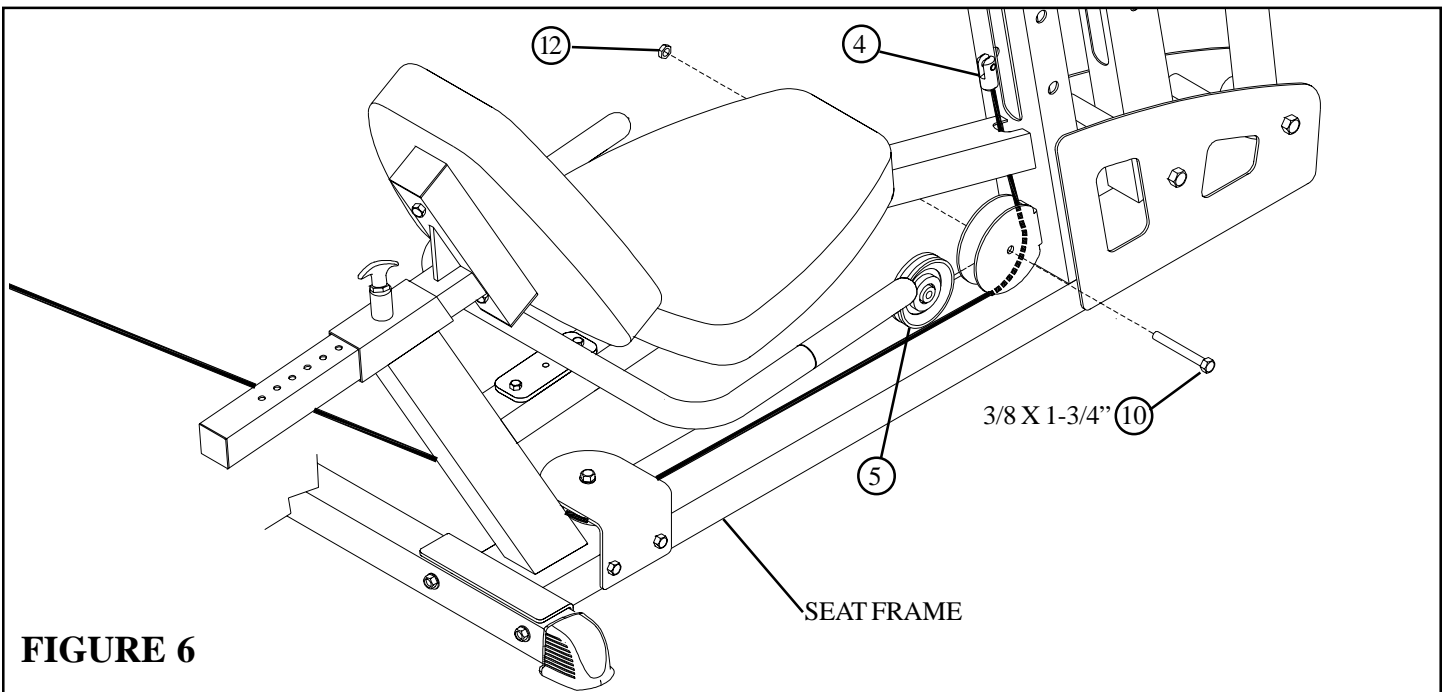

**FIGURE 5**
- Carefully route the LEG PRESS CABLE (4) around one 3-1/2" PULLEY (5) and **SECURELY** assemble the 3-1/2" PULLEY (5) to the BRACKET (from 100 LEG PRESS kit) using one 3/8 X 1-3/4" BOLT (10), one 3/8" WASHER (11), one "L" CABLE RETAINER (3) and one 3/8" LOCK NUT (12) as shown in FIGURE 5. Make sure the CABLE is in the grooves of all the pulleys.
- **SECURELY** attach the BRACKET (from LP5 LEG PRESS) to the SEAT FRAME using two 3/8" X 4-3/4" BOLTS (7), two 3/8" WASHERS (11), and two 3/8" LOCK NUTS (12). See FIGURE 5.